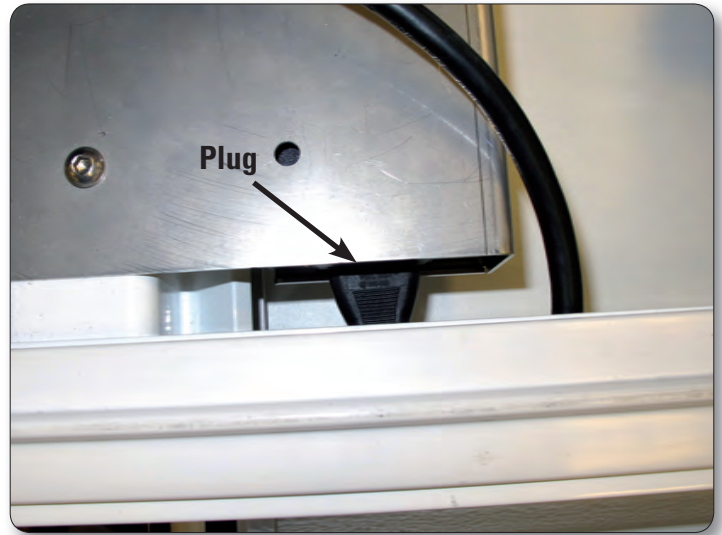

Figure 12
2. Plug one branch of the new “Y” power cord (Page 5, J) into the power supply located toward the rear of the carriage (Figure 12). Route the power cord as shown in Figure 11. It is also permissible to have the power cord extend directly out the side of the carriage rather than over the top of the carriage.